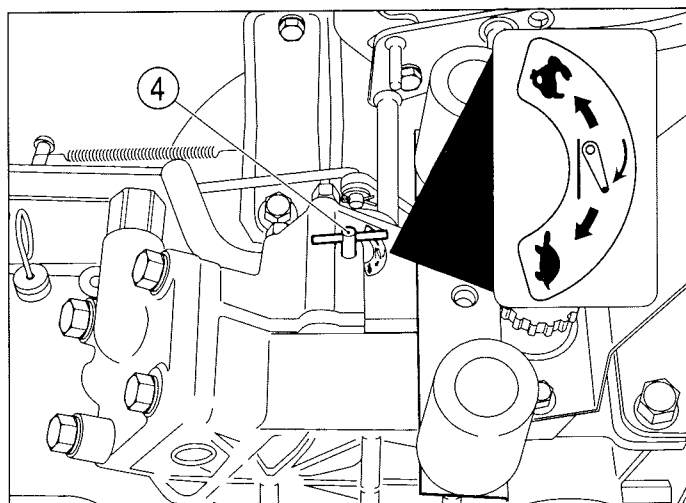

FIG. 65
**When Turning** - Move the position lever (1) rearward (toward Up) to raise the implement. Finish turning and return the lever against the lower stop to resume operation.
**To Finish Work and Transport** - Move the position control lever (1) fully rearward in the quadrant.
FIG. 65: Lowering speed can be readjusted as necessary using the lowering rate control handle (4). Turning the handle fully clockwise will prevent links from lowering.